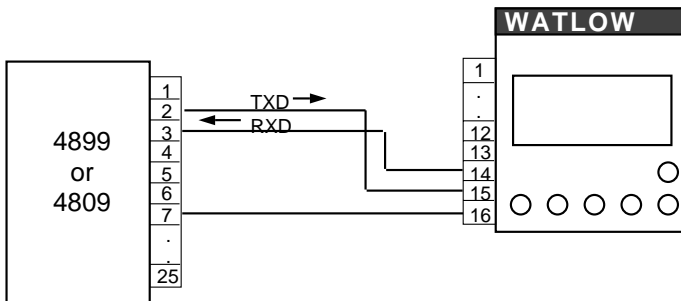

Figure 2-5 RS-232 Connections to a Modbus Device
The 4899/4809's minimum RS-232 connection uses just three lines to connect the unit to a Modbus slave device. The lines are transmit data (SD), receive data (RD), and Ground. Figure 2-5 shows an RS-232 connection to a Watlow F4 Temperature Controller